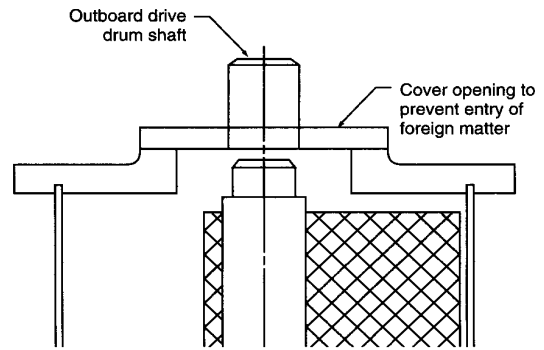

FIGURE 5
4. Remove bearing cap from end flange as shown in Figure 5. Use caution so as to prevent foreign matter from entering the opening.